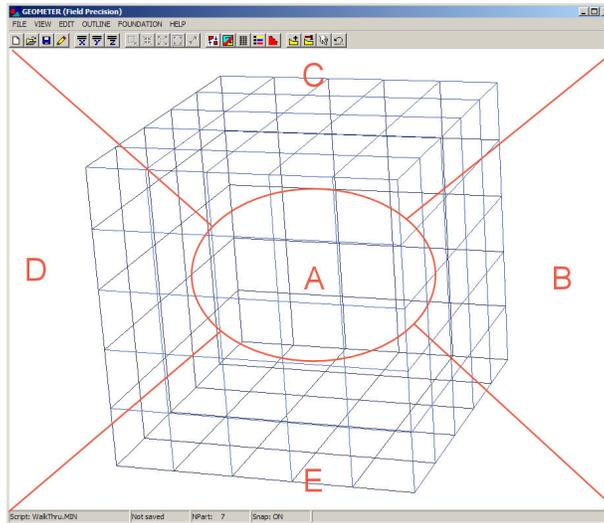

Figure 29: Active areas for mouse control of the 3D view.
The method to control the three-dimensional display with the mouse is identical to that used in **MetaMesh**. Figure 29 shows the active areas of the screen. The central zone (A) is used for zooming in (left button) and out (right button). Hold down the left mouse button in zones B, C, D and E to walk around the object. Hold down the right mouse button in zones B, C, D and E to move the viewpoint to the right, upward, to the left and downward. Note that changes are reflected in the orientation box in the upper-right portion of the screen. The plot is updated when you release the mouse button. You can control additional aspects of the three-dimensional view with the commands of the *Adjust view* popup menu.